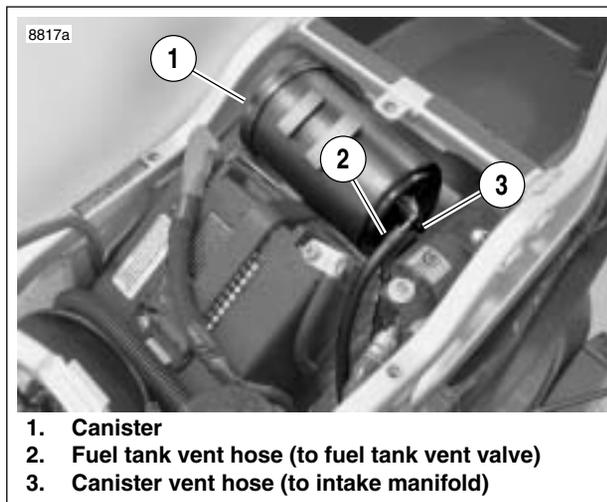
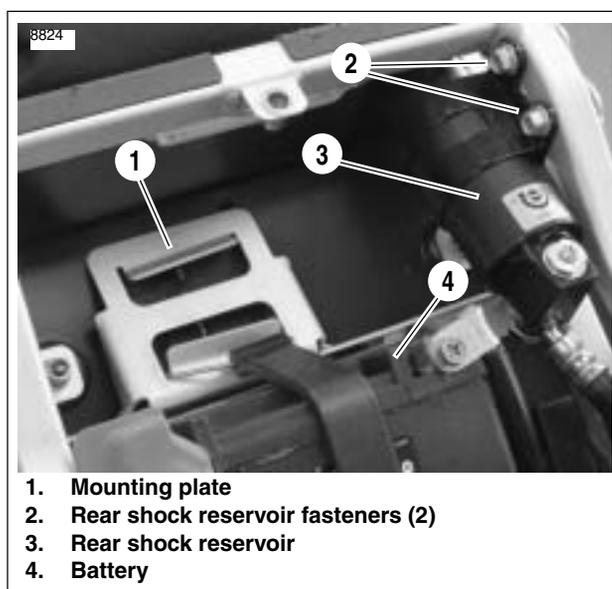

Figure 4-81. Carbon Canister Installation.
Figure 4-83. Carbon Canister Mounting
2. See Figure 4-81. The canister assembly mounts behind the battery in the tail section.
3. Label and disconnect the fuel tank vent hose (2) and canister vent hose (3) from the canister.
4. See Figure 4-83. Remove rear shock absorber reservoir fasteners (2). Move reservoir assembly away from canister.
5. Slide canister towards left side of vehicle to disengage from mounting plate (1).
2. See Figure 4-81. Attach fuel tank vent hose (2) to canister if disconnected.
1. See Figure 4-83. Slide canister into position on canister mounting plate (1).
2. Place rear shock reservoir assembly (3) into position.
3. See Figure 4-83. Install reservoir mounting fasteners (2). Tighten fasteners to 120-144 **in-lbs** (13.6-16.3 Nm).
4. See Figure 4-81. Connect two hoses to the canister. Make sure to push hoses all the way on to carbon canister fittings.